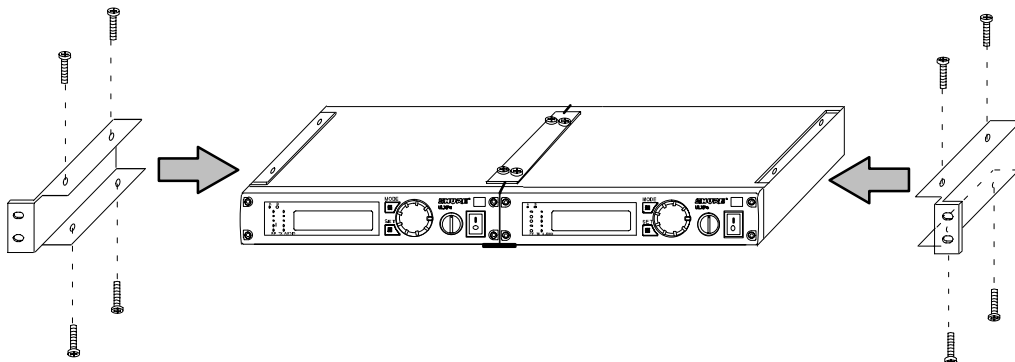

FIGURE 50
3. Secure the straddle bars to the receivers using the supplied screws. Refer to Figure 50.